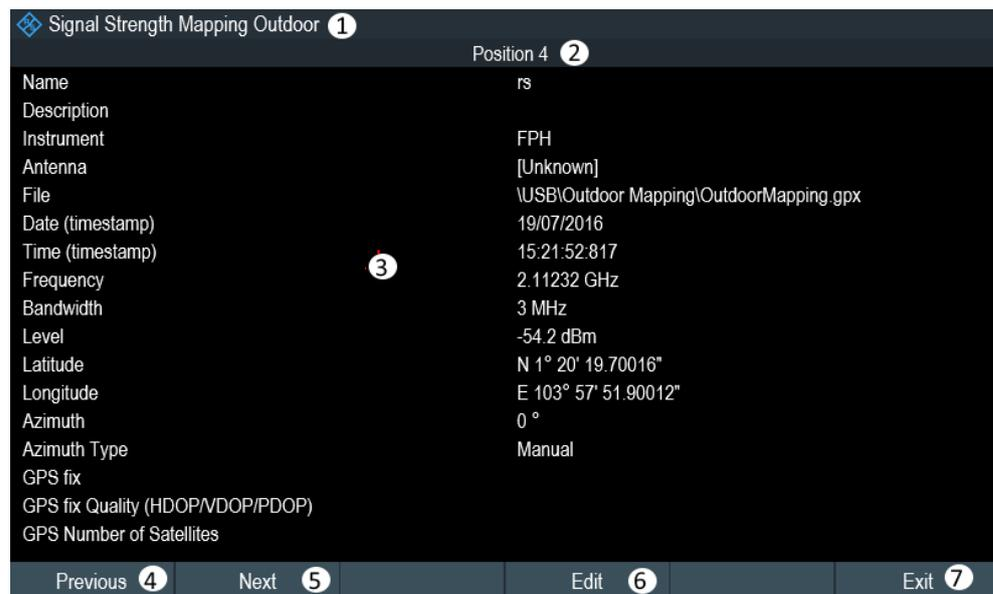

Figure 11-6: Complete geotag information dialog box
- 9 = Press "View" to display complete information of the geotag, see Figure 11-6